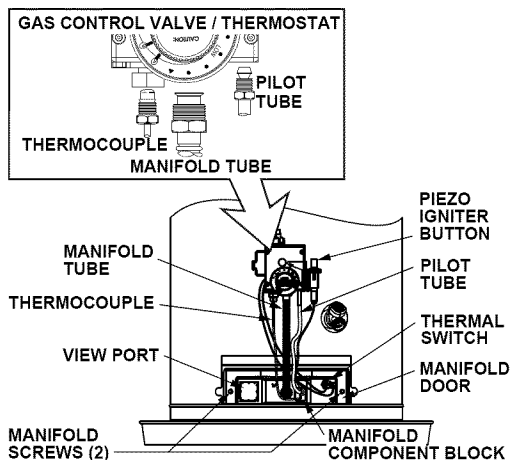

FIGURE 11.
5. Remove the two screws securing the installed manifold door assembly to the combustion chamber (Figure 11).
6. Disconnect the thermocouple (right-hand thread), pilot tube, the igniter wire from the igniter button, the two connectors attached to the thermal switch, and manifold tube at the gas control valve/thermostat. See Figure 11.
6. During the following procedure, do not cross-thread or apply any thread sealant to any of the fittings listed below. See Figure 11. First, reconnect the manifold tubing to the gas control valve/thermostat. Second, locate the provided ferrule nut and install it in the gas control valve/thermostat at the pilot location, hand tight only. Third, insert the pilot tube into the ferrule nut until it bottoms out, then hold the tube in this position. Tighten the ferrule nut with a wrench until the crimp connection seals to the pilot tube. Continue to tighten until the nut is tight in the gas control valve/thermostat. Finally, start the thermocouple nut and turn it all the way in by hand. An additional quarter turn with a 3/8" open-end wrench will then be sufficient to seat the lockwasher. When you are finished, connect the two wire leads that go to the thermal switch. Finally, reconnect the igniter wire.